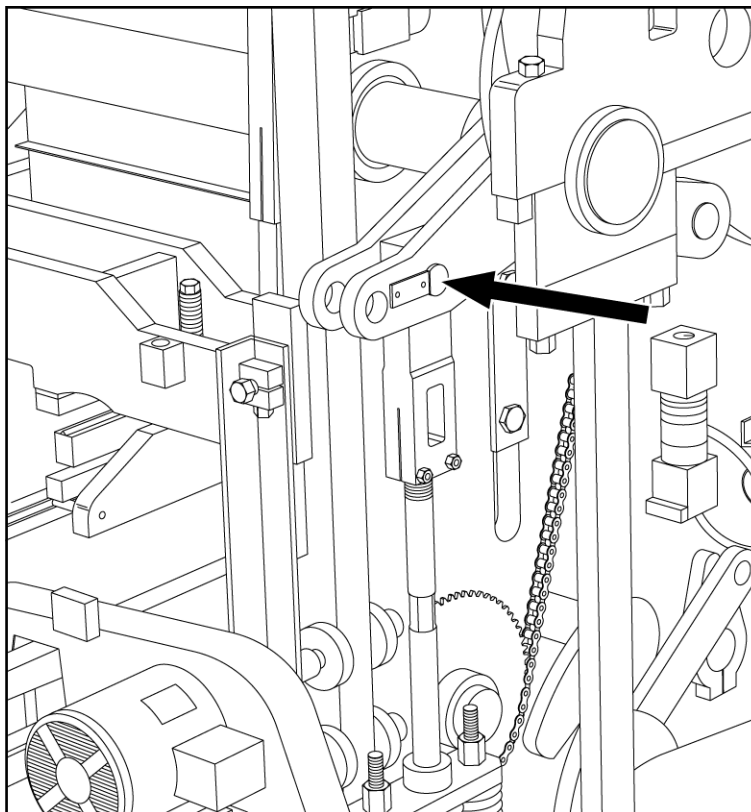

Figure 4.16 PALLET RECEIVER SHAFT POSITION
4.2.1 The following items should be positioned as shown in figure 4.16 and 4.17:
- a. Pallet receiver shaft - position pins in inside holes (short stroke)(see figure 4.16 below).